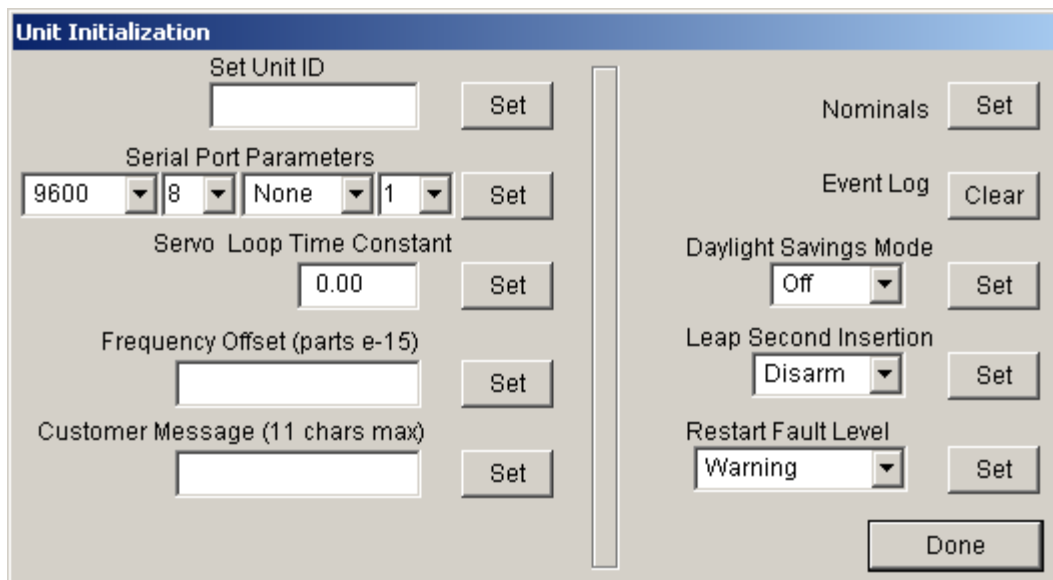

Figure 4-10. Selecting Unit Initialization Options
1. Select **Commands** from the menu and click **Unit Initialization** from the menu option. This opens a dialog box as shown in Figure 4-10.
The Unit Initialization dialog allows you to set various parameters. Refer to Figure 4-10 and Table 4-1 for the appropriate settings for the CsIII.